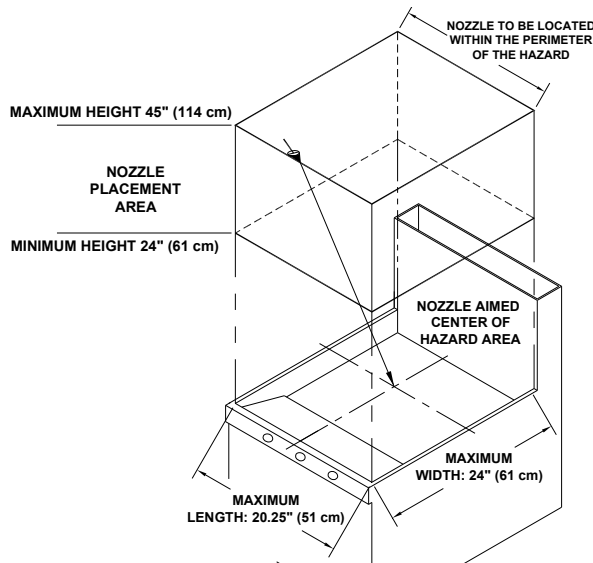

Figure 3-15.
The **Model N-2HP** nozzle is a two (2) flow point nozzle that can protect a deep fat fryer with a maximum cooking area of 20.25" (51 cm) wide by 24" (61 cm) deep. The nozzle must be located 24" (61 cm) to 45" (114 cm) above the cooking surface and located anywhere over the appliance cooking area. The nozzle must be aimed at the center of the cooking area. See **Figure 3-15**.